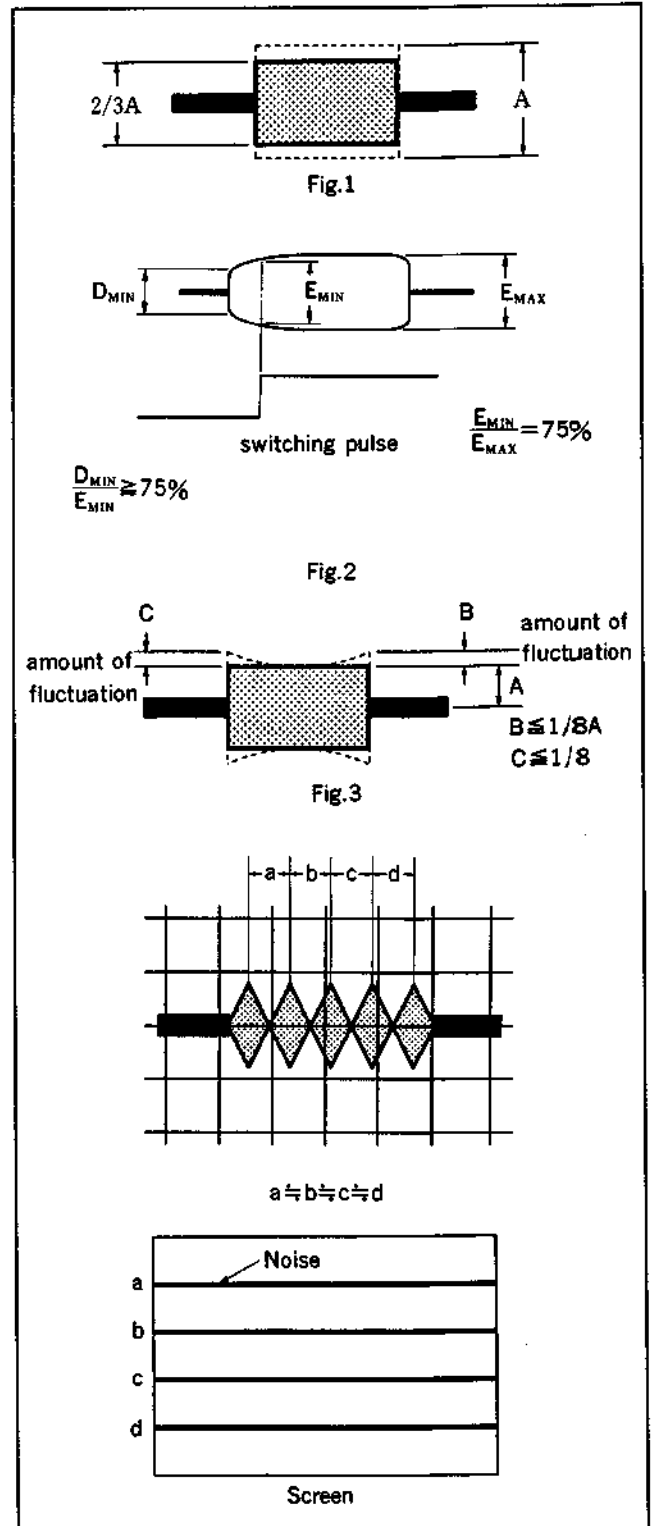

Fig. 6-4-1 Tracking check
Turn RV701 on SST-2 board until RF wave shape amplitude is reduced to 2/3. (See Fig. 6-4-1 (1).)
Turn RV703 on SST-2 board until RF wave shape amplitude is reduced to 2/3. (See Fig. 6-4-1 (1).)
3. 1) Confirm that the minimum amplitude (E_{MIN}) of RF wave shape is more than 75% of the maximum amplitude (E_{MAX}). (See Fig. 6-4-1(2).)
4. RF envelope fluctuation at both entrance and exit sides is less than the specified value, as shown in Fig. 6-4-1 (3).
5. Put the unit into reverse mode. Check that noise pitch has equal interval. (Fig. 6-4-1 (3).) If it does not have equal interval, continue adjustment as follows.